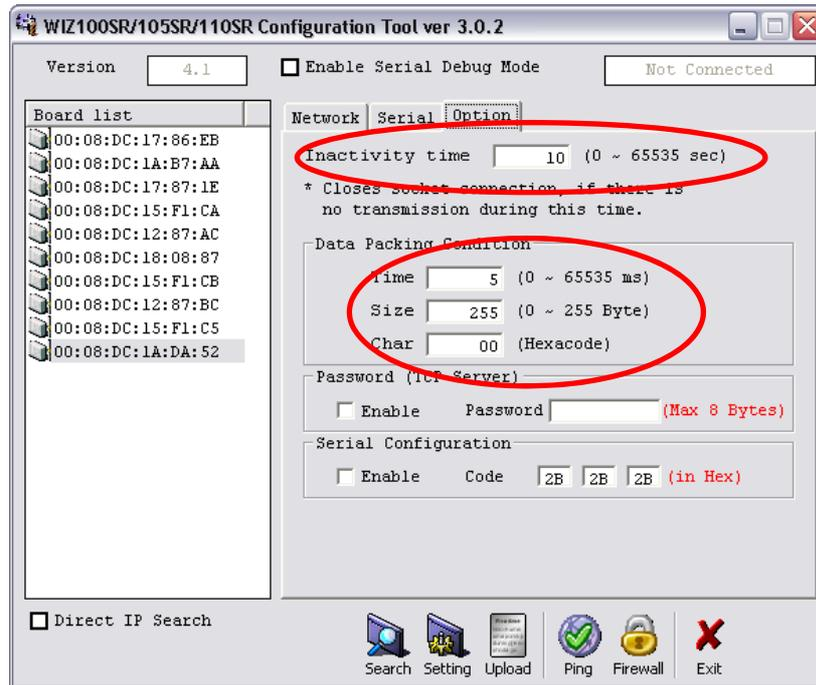

Figure 11
8. Enter values into the highlighted fields on the **Option** tab as shown Figure 11 below.